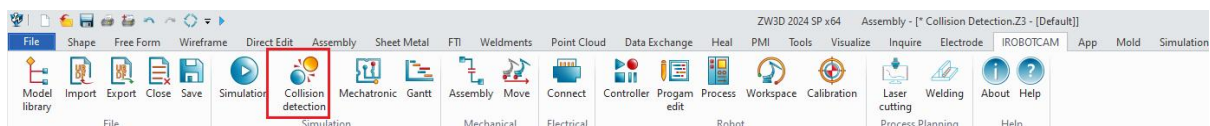

Figure 11-14: Collision Detection
- In the “IROBOTCAM” column, click on the “Collision Detection” button. (Figure 11-14)